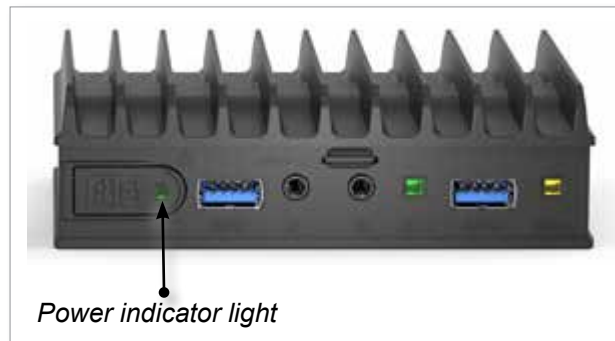

Figure 15-2 Fitlet2 power indicator light
- Ensure the Fitlet2 is powered up. A green light at the front of the device indicates that the Fitlet2 is on. See Figure 15-2.